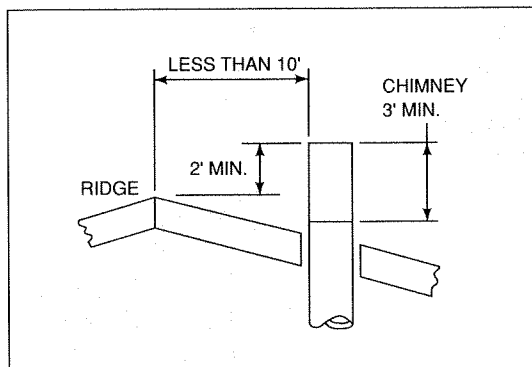

Figure 8
1. If the horizontal distance from the side of the chimney to the peak of the roof is 10 feet or less, the top of the chimney must be at least 2 feet above the peak of the roof, but never less than 3 feet in height above the highest point where it passes through the roof. See Figure 8.